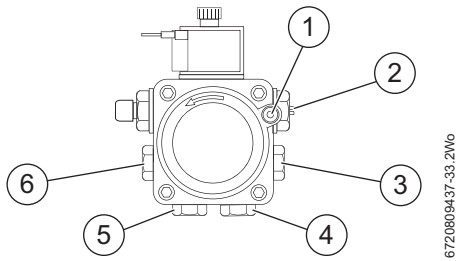
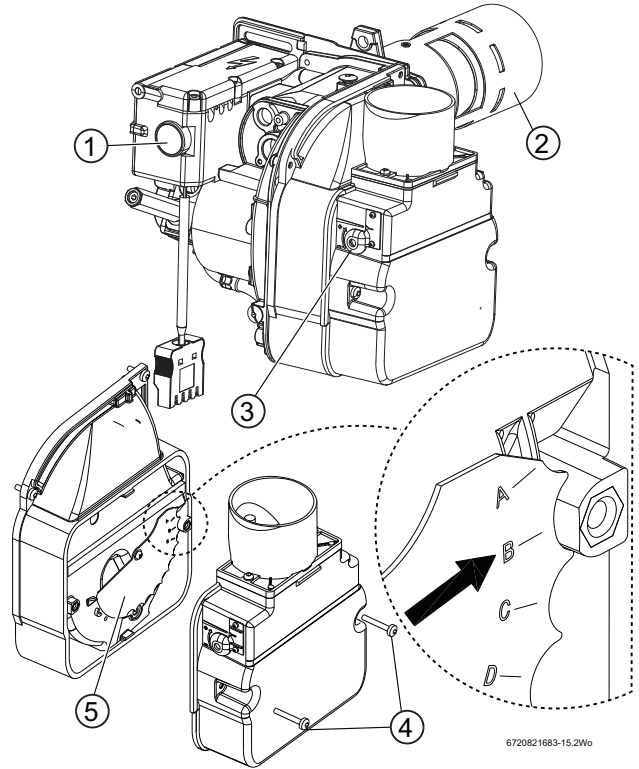

Fig. 68 Oil pump ports/connections
Fig. 69
- ▶ Adjust the air shutter [3] → figure 69 and pump pressure [2] → figure 68 to the values shown in the table 10 on page 46. The burner should ignite following a pre-ignition period of approximately 15 seconds.
**i** Adjust position of air damper discs to suit burner output (see table 10 on page 46), located as shown in figure 69. Access by undoing the two screws [4] to release the air inlet cover.